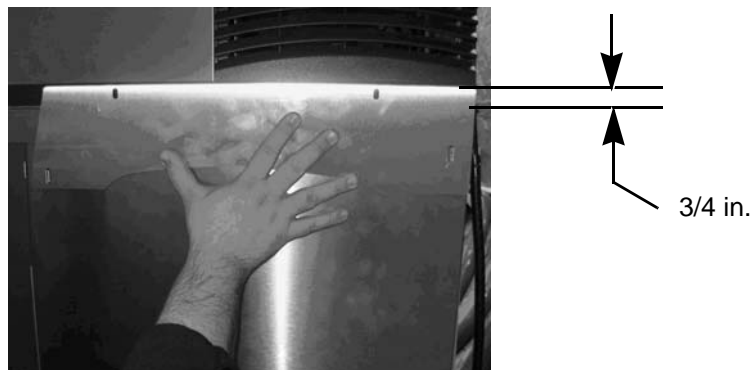

Figure 16
3. Position the plate as shown in Figure 16, with the straight edge towards the rear of the unit and the top of the plate is about $\frac{3}{4}$ in. above the adaptor lid.